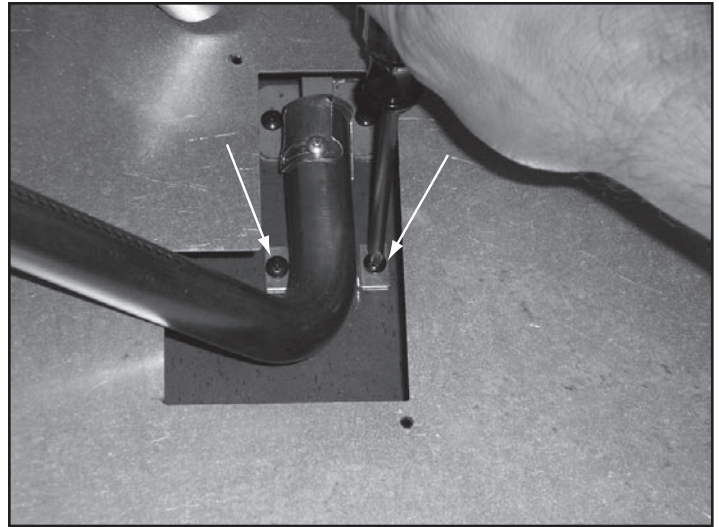

Figure 2 Remove Outside Burners
- Remove the outside burner tubes by removing the two screws that hold burner tubes in place. See Figure 2.